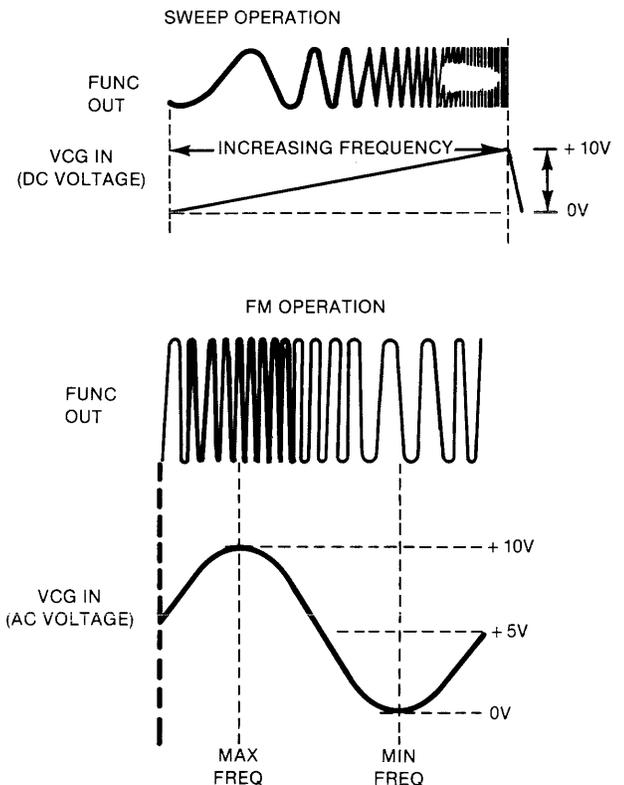

Figure 3-4. Sweep and FM Relationships
**20 VCG In (10K $\Omega$ ) Connector** (See figure 3-4). This connector inputs an external voltage to control the generator frequency for sweep or FM operation. Operation is limited to the front panel selected or preprogrammed frequency range. Input control voltages are limited to positive voltages between 0 and +10Vdc (+12Vdc on top range) or a 10Vp-p maximum voltage centered at +5Vdc (12Vp-p centered at 6Vdc for the top range). Positive-going voltage levels increase the frequency, while negative-going inputs decrease the frequency. Frequency excursions of 1000:1 (1200:1 on the top range) are possible in each of the frequency ranges. If the zero switch is pressed, the nine standard frequency ranges are down-shifted by 2 decades allowing a VCG bottom control range of 100  $\mu$ Hz. Input impedance is 10k $\Omega$  and maximum slew rate is 0.1V/ $\mu$ s.